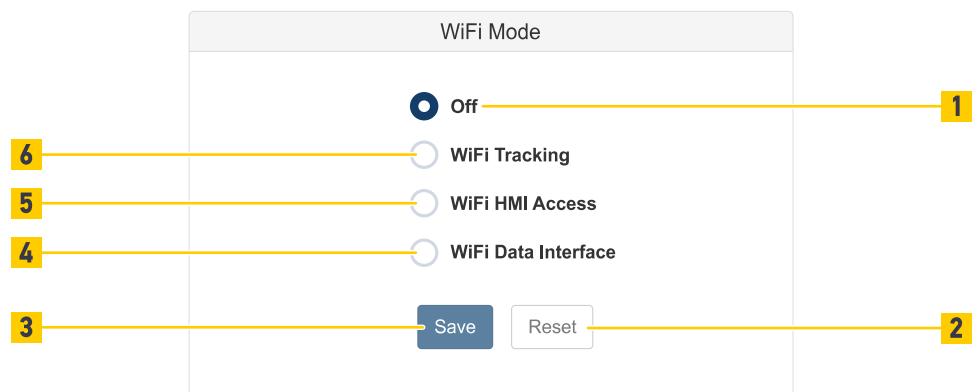

Fig. 130: WiFi Mode
- To deactivate the wireless USB adapter choose the WiFi Mode Off (Fig. 130 /1).
- To track wireless devices such as mobile phones choose the WiFi Mode WiFi Tracking (Fig. 130 /6).
- To access the sensor via WiFi choose the WiFi Mode WiFi HMI Access (Fig. 130 /5).
- To send counting data to a wireless network choose the WiFi Mode WiFi Data Interface (Fig. 130 /4).
- To go back to the last saved settings click the Reset button (Fig. 130 /2).
- To save all the settings in the device click the Save button (Fig. 130 /3).